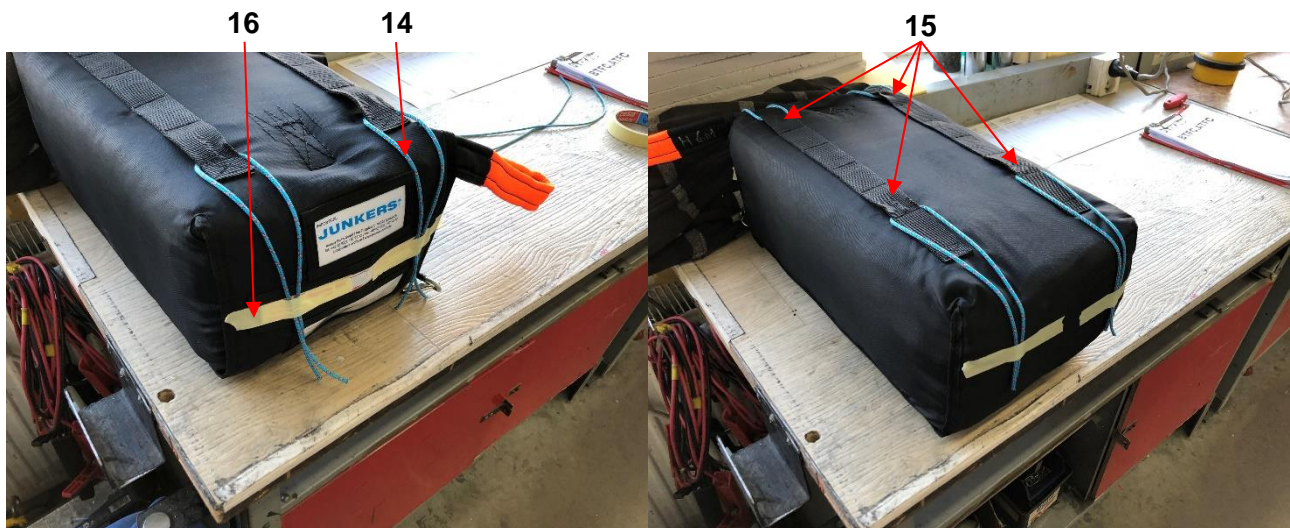
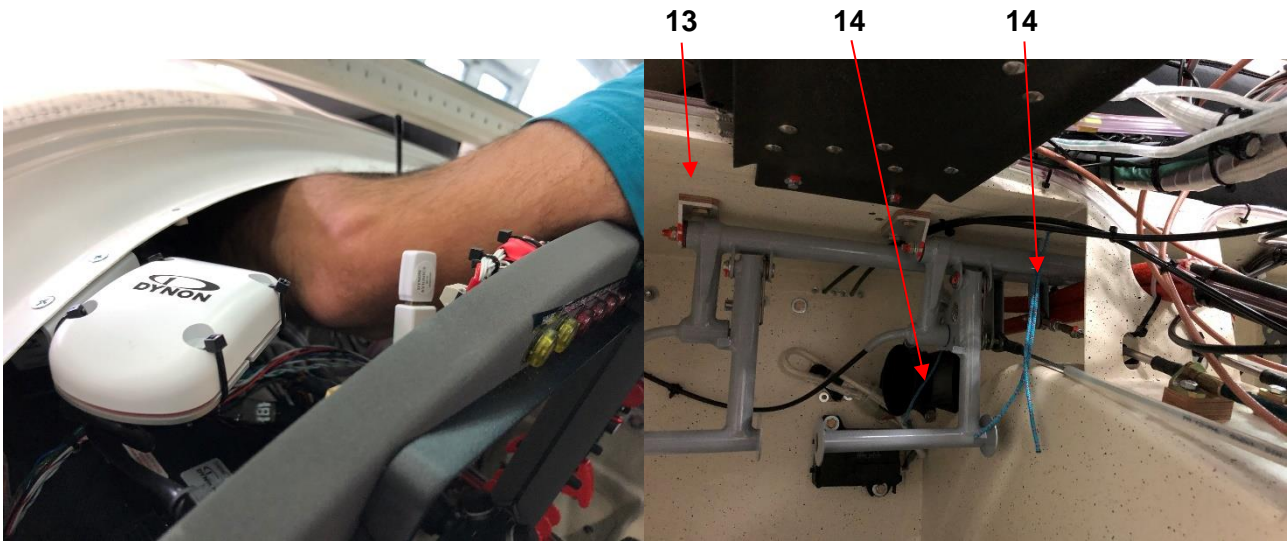
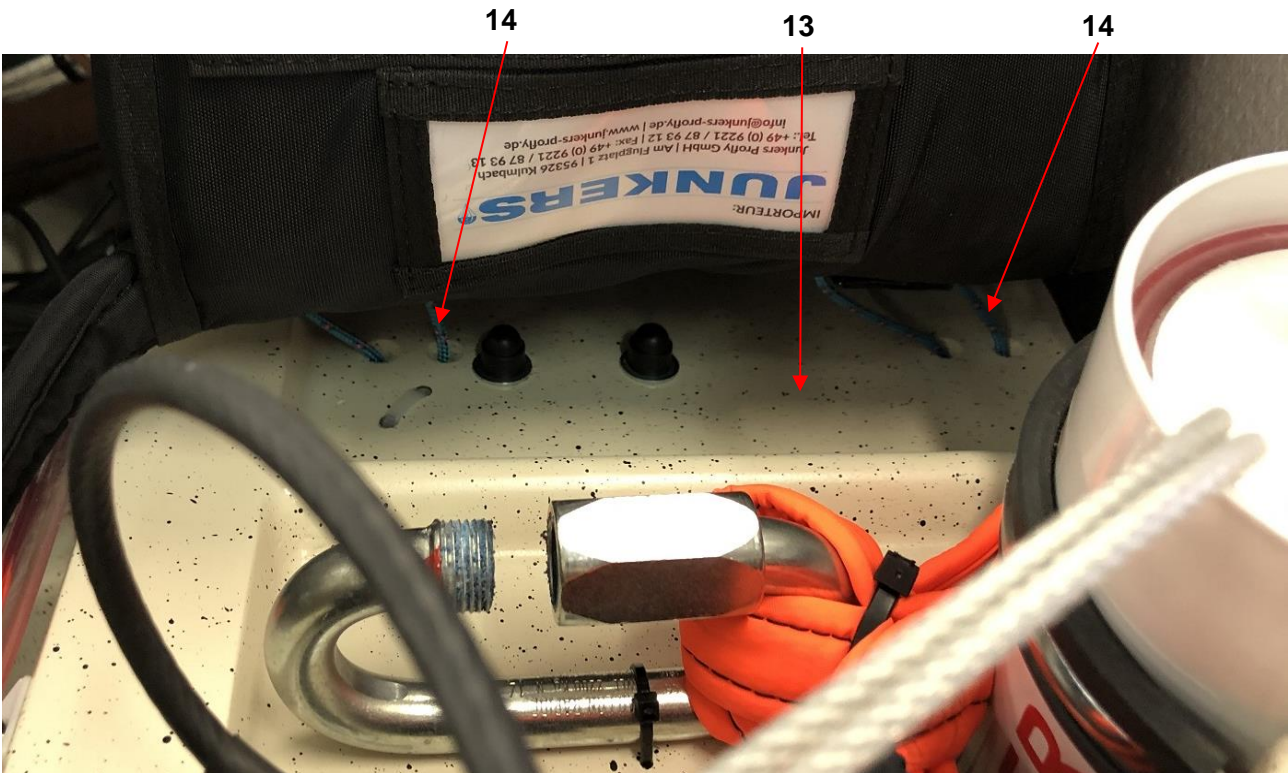

Fig. 9
Fig. 12
Fig. 13
14. Pull the 4 ropes (14; Fig. 9) through the attachment points of parachute fabric container (15).
15. Fix the ropes to the parachute fabric container using a paper tape (16).
18. Remove the paper tapes (16; Fig. 9) and pass the left ropes (14; Fig. 12) through the holes in the rescue system board (13).
19. Put the parachute fabric container into the rescue system compartment. Remove the paper tapes (16; Fig. 9) and pass the right ropes (14; Fig. 13) through the holes in the rescue system board (13).